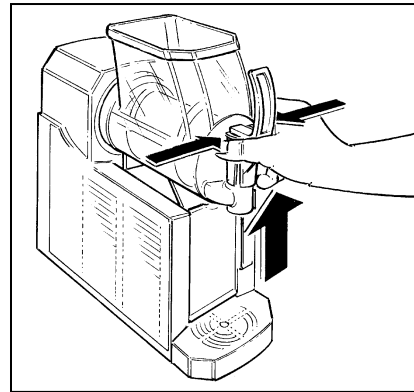

Fig. 4
- **S**imultaneously press the two securing tabs and lift the tap to extract it from its seat (see fig.4).